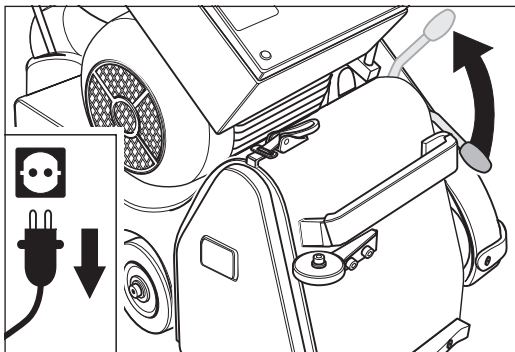

Fig. 7 Pull the operating lever of the drive unit upwards. Similar to figure.
- 8 Pull the operating lever of the drive unit upwards to bring the tensioning roller down (Fig. 7).